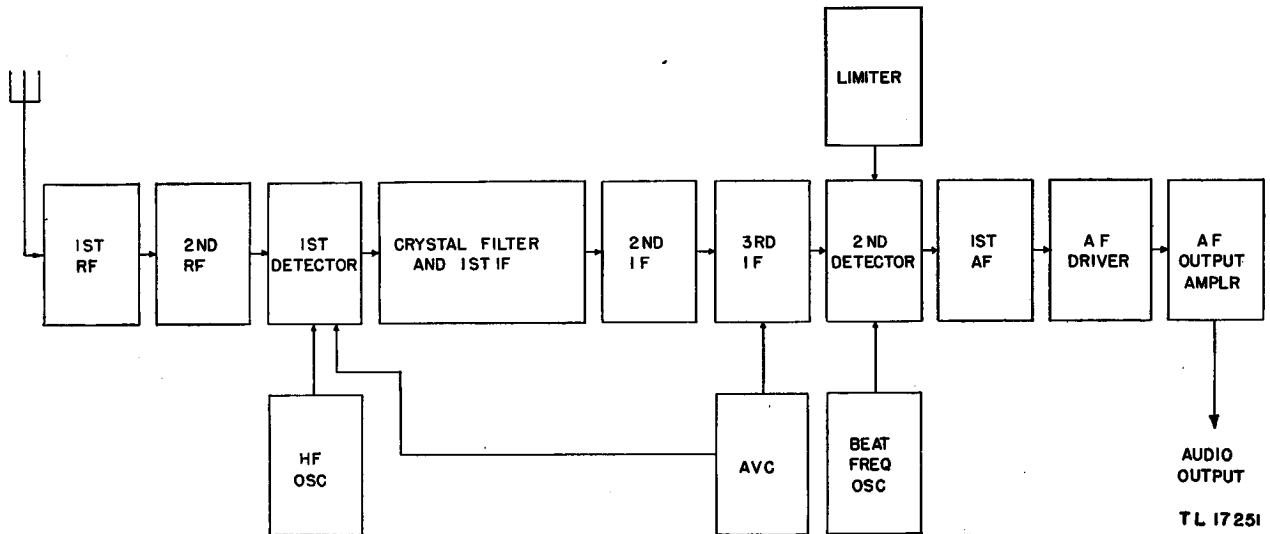

Figure 3. Radio Receiver BC-779-B, block diagram.
2. Over-all System Function (fig. 3)
a. GENERAL. The receiver uses a superheterodyne or double detection type of circuit for reception of modulated and continuous-wave a-m signals. The over-all system function may be understood by reference to figure 3.